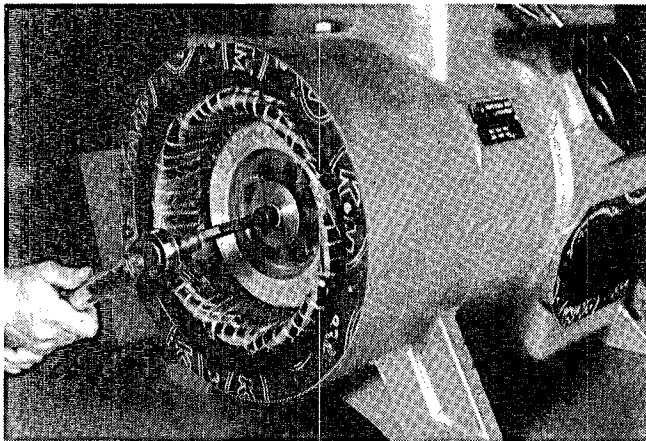

Figure 43
2. To remove the rotor bolt, it will be necessary to keep the crankshaft from turning. Place a block of soft wood or a mallet between one of the crankshaft counterweights and the housing (Figure 43 and 44).